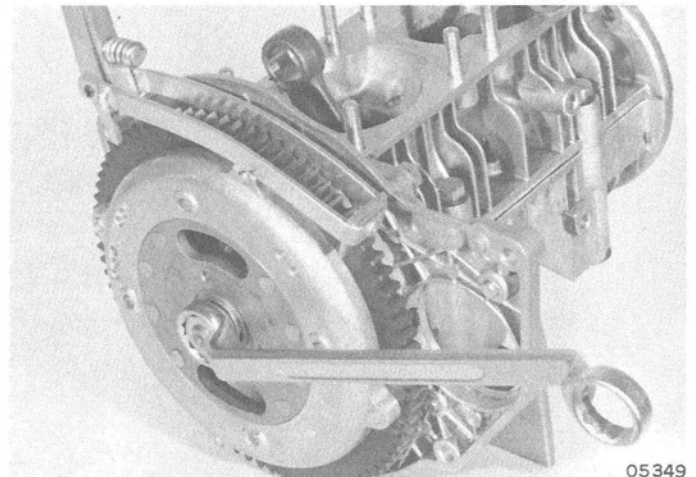

Figure 2. Flywheel Nut Removal
3. Remove flywheel retaining nut, holding flywheel with Tool C-91-45246. (Figure 2)